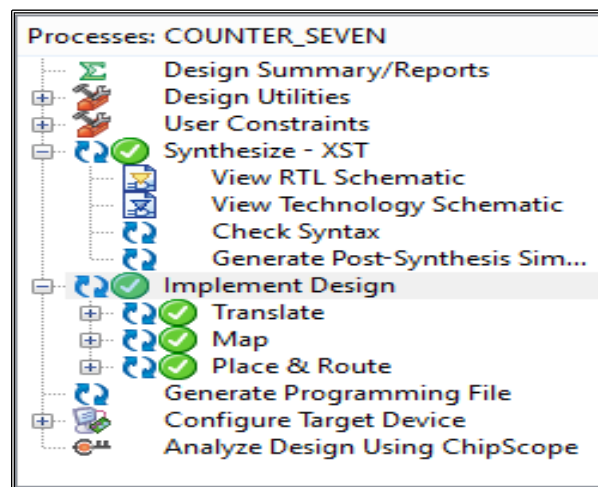

Fig 10.7: Design Implementation
18. Next step is the implementation of the design. Right click **Implement Design** and click **Run**. After successful implementation a green check will appear on all the three steps i.e. translate, map and place & route (Fig 10.7).